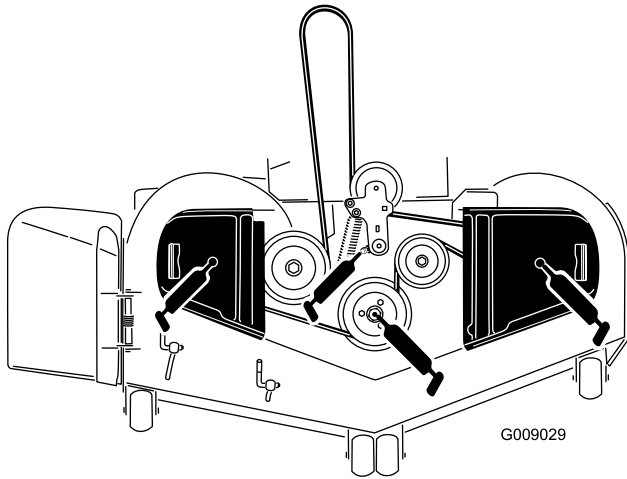

Figure 41
3. Grease the mower deck idler pulley pivot until grease come out the bottom (Figure 41).
4. Grease the three spindle bearings until grease comes out (Figure 41).
5. Grease the drive belt idler arm (Figure 41).